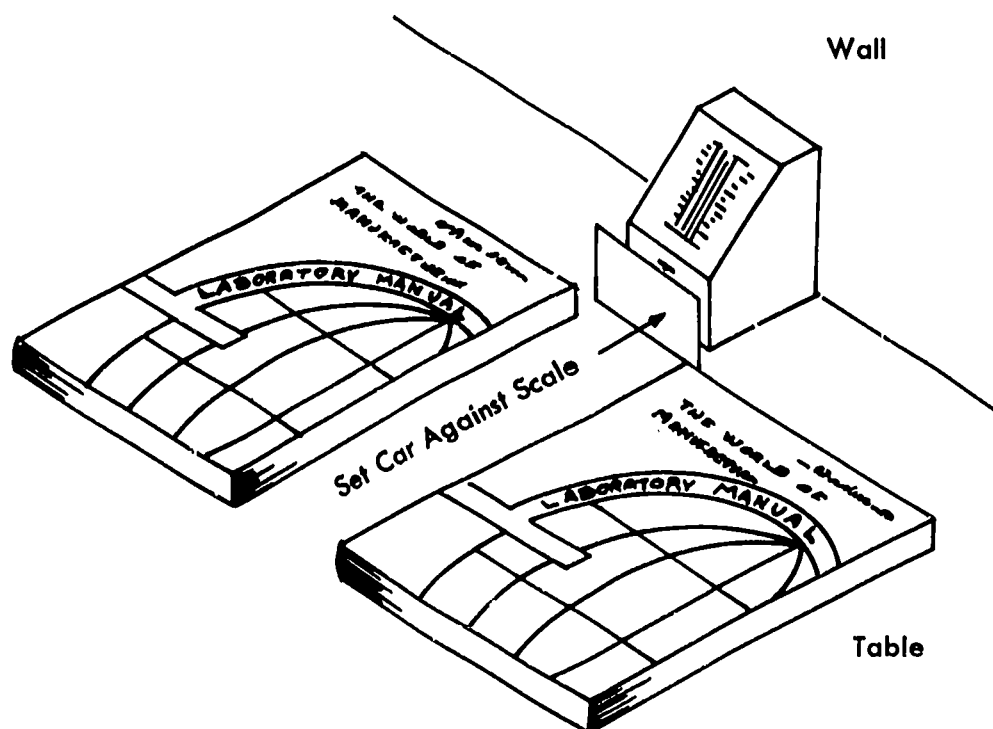

Fig. 11-1. Firing Test Setup
2. Place a postage scale on its back so the dial is up and the base is against a wall, step, or cinder block on the table. See Fig. 11-1.
4. Place Laboratory Manuals next to each side of the car so that the car will run freely between them. See Fig. 11-1.